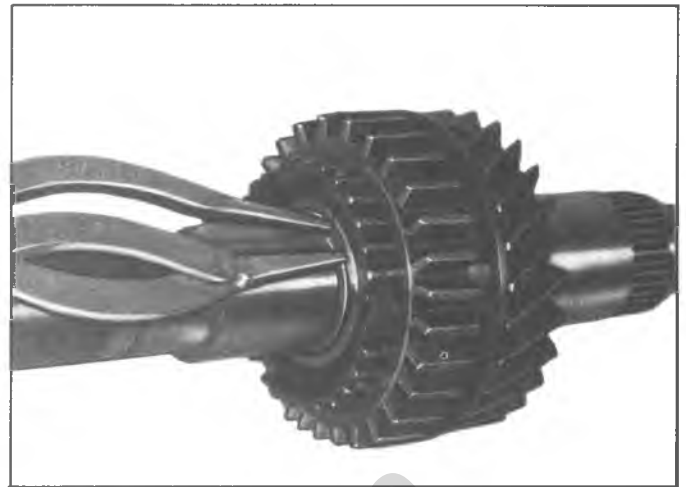

Fig. 10X-First and Second Synchronizer Snap Ring
5. Remove the 1st and second sliding clutch hub snap ring from the mainshaft (Fig. 10X) and remove the clutch assembly, 2nd speed blocker ring and second speed gear from the rear of the mainshaft. This completes the disassembly of the mainshaft.
8. Install synchronizer hub to mainshaft snap ring (fig. 10X).